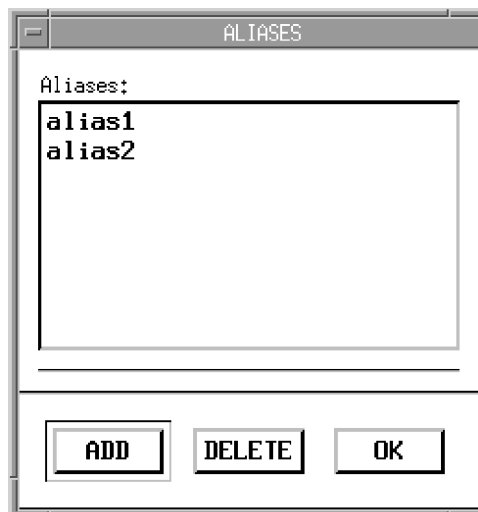

Figure 29. ALIASES Window
- STEP 5: **Add aliases for a machine, if desired.** Click on the `ALIASES` button in the `ADD MACHINE` window to open the `ALIASES` window (Figure 29).